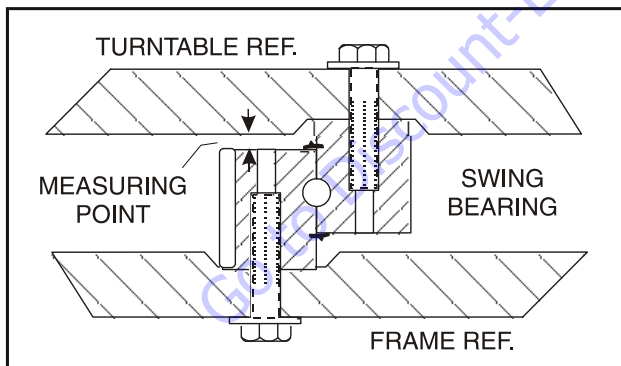

Figure 3-28. Swing Bearing Tolerance Measuring Point
1. From the underside of the machine, at rear center, with the main boom fully elevated and fully retracted, using a magnetic base dial indicator, measure and record the distance between the swing bearing and turntable. See Figure 3-28., Swing Bearing Tolerance Measuring Point
2. At the same point, with the main boom at horizontal and fully extended, using a magnetic base dial indicator, measure and record the distance between the swing bearing and turntable. See Figure 3-28., Swing Bearing Tolerance Measuring Point.